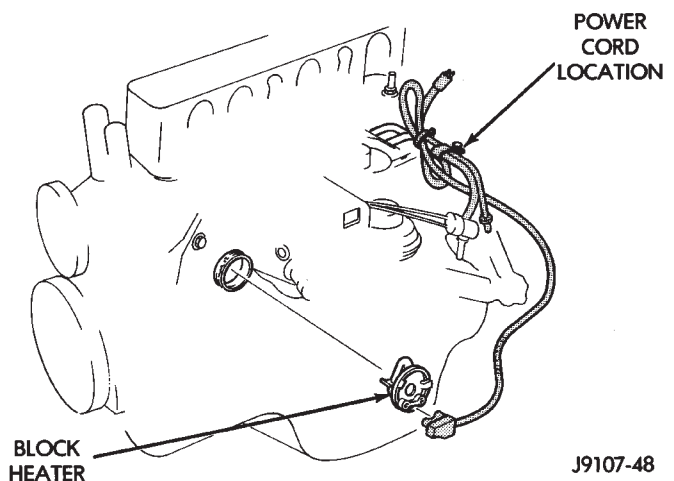

Fig. 11 Heater and Cord—XJ with 2.5L 4-Cylinder Engine
Refer to correct illustration (Figures 11, 12 or 13) when servicing block heater.
(1) Drain coolant from radiator and engine cylinder block.
- (2) Unplug power cord from block heater.
- (3) Loosen screw in center of block heater (Figs. 11, 12 or 13).
- (4) Remove block heater from cylinder block.